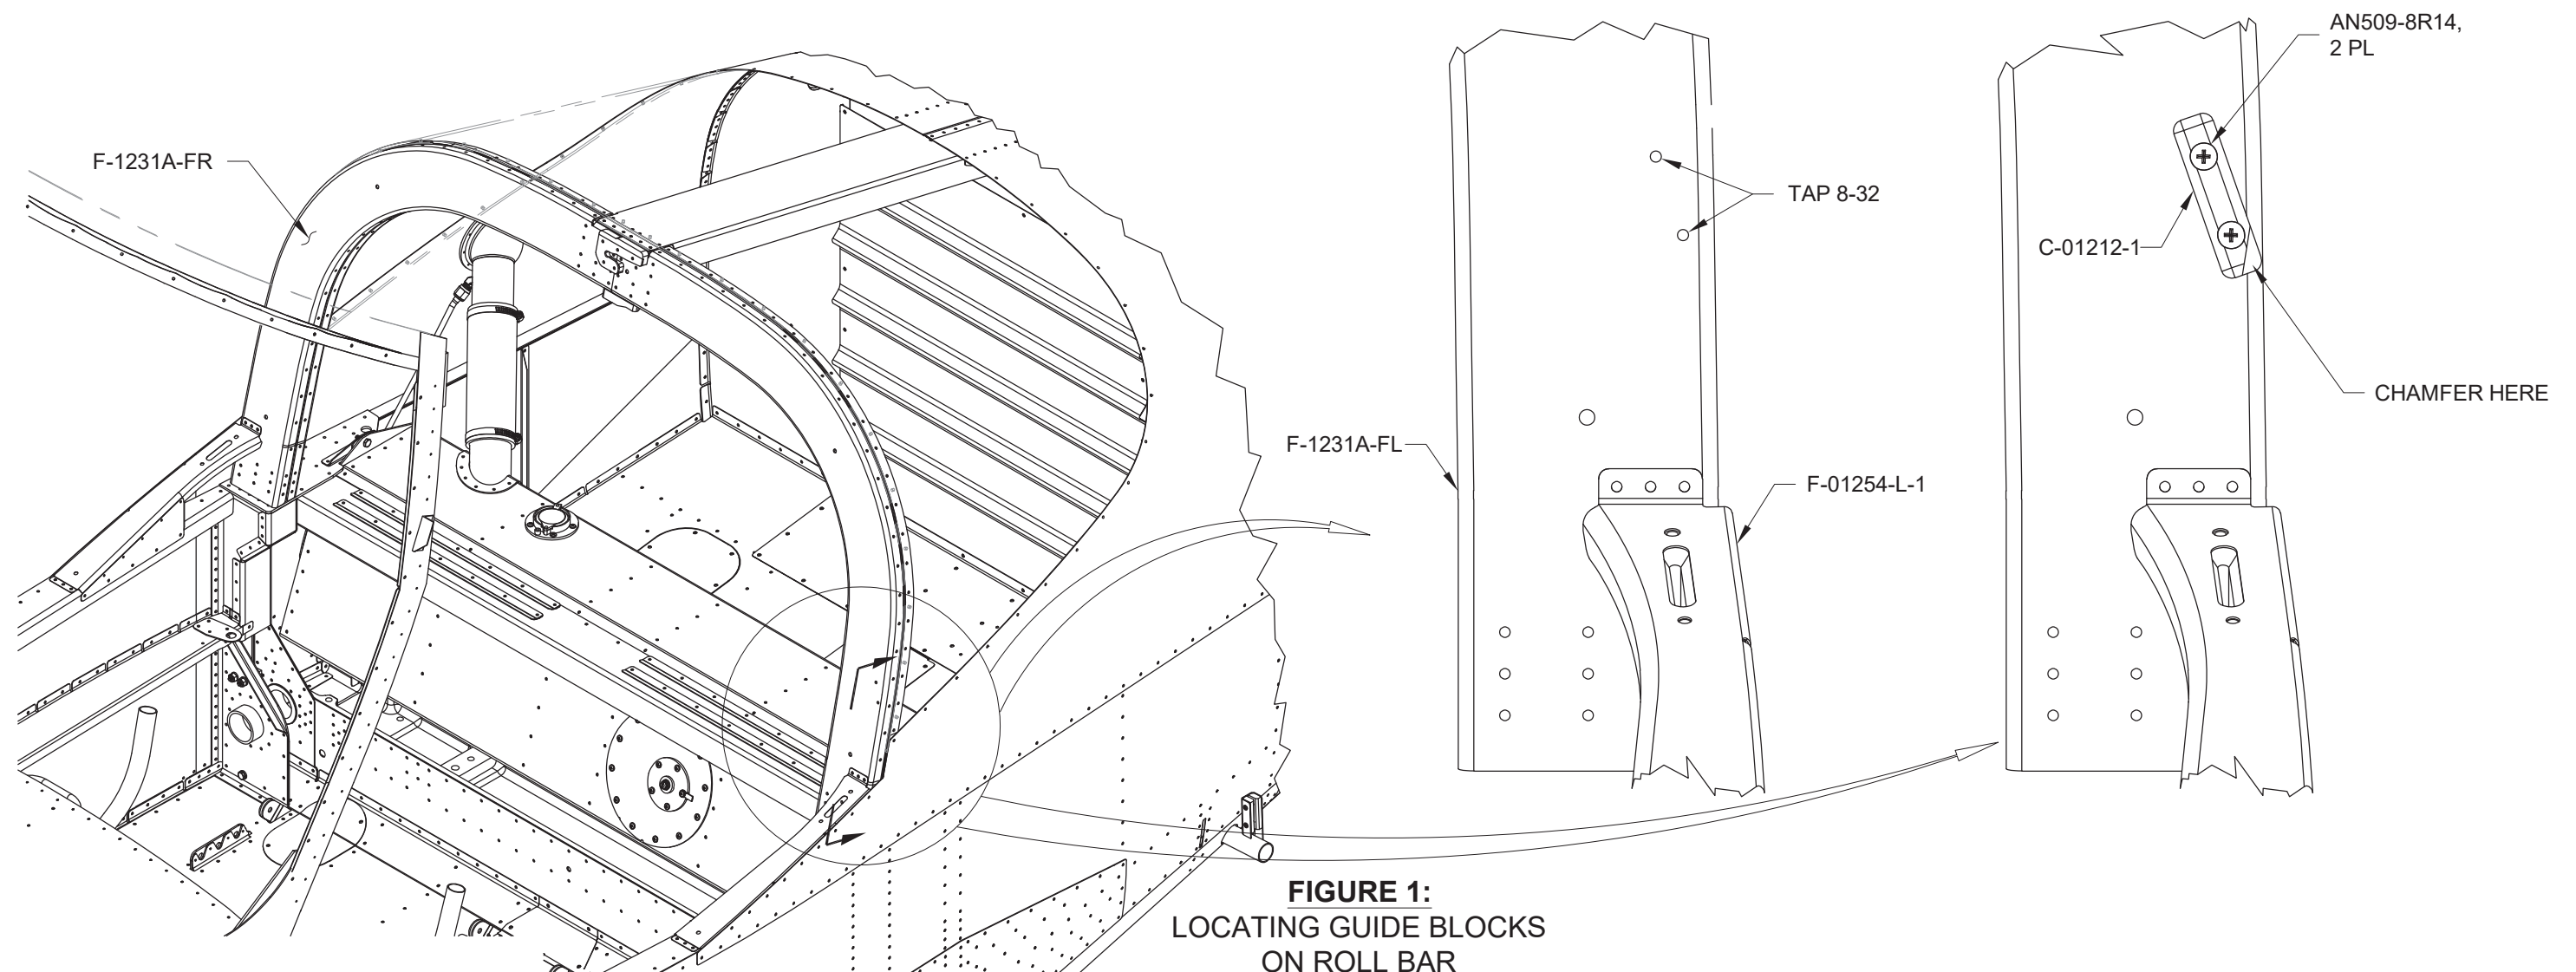

FIGURE 1:
Step 2: Install both guide blocks as shown in Figure 1.